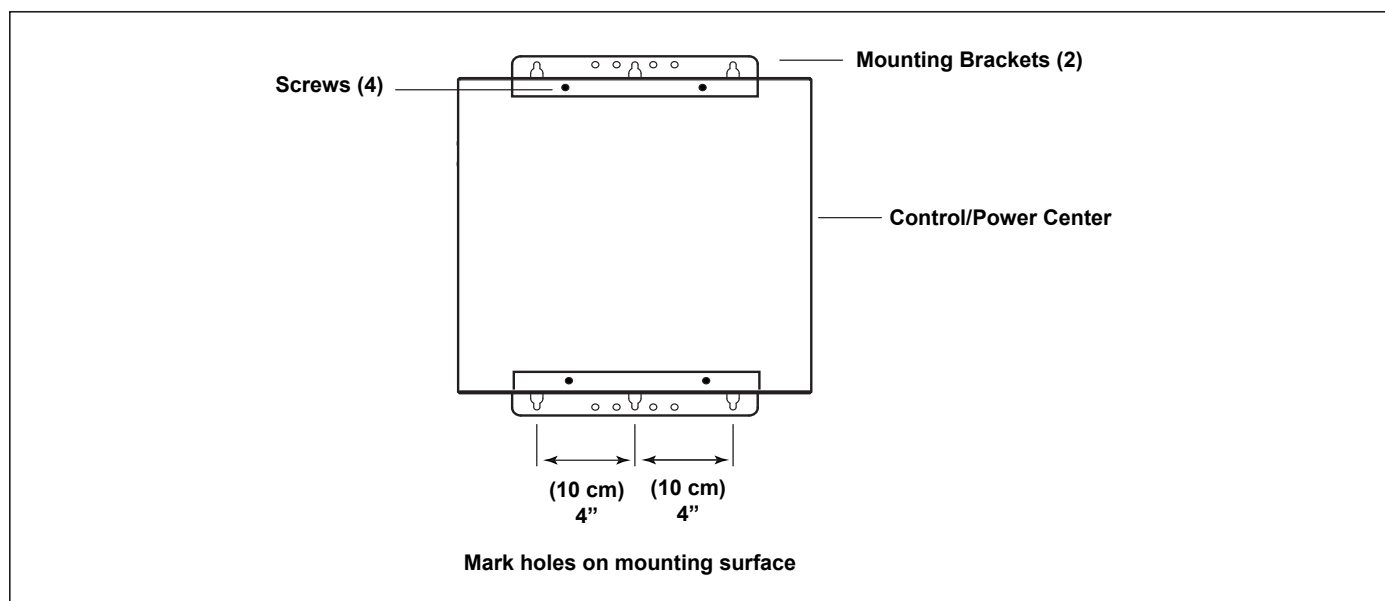
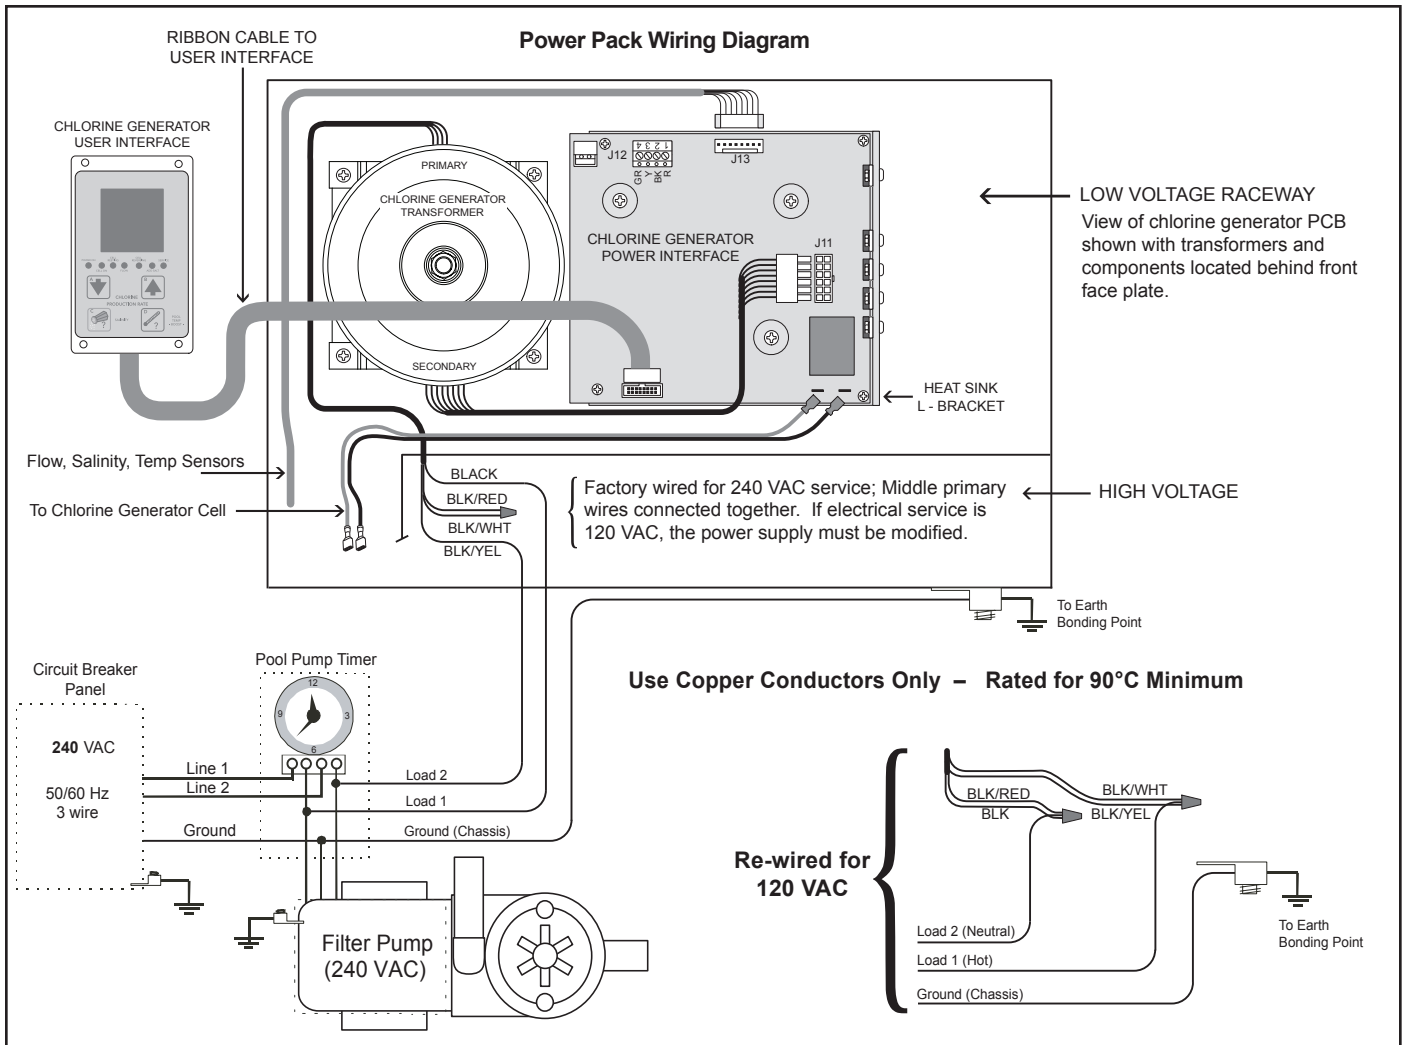

Figure 7. Power Pack Installation
Figure 10. Wiring Diagram for the Power Pack
2. The control/power center comes with two (2) full length, heavy duty mounting brackets *fastened* to the back of the power center during shipping. Remove the four (4) screws that are holding the two (2) brackets and the cardboard shipping cover in place (see Figure 7). Remove and discard the cardboard.
3. Using the top mounting bracket as a guide, mark three (3) holes on the mounting surface where the power center will be installed. Drill the holes in the mounting surface.
**NOTE** The three (3) mounting holes are 10 cm (4") apart center to center.
4. Reinstall the mounting brackets to the top and bottom of the back of the control/power center using the four (4) screws that were removed in *Step 2*. Ensure that the brackets are rotated from the original shipping position.
5. Hang the power pack on the surface using the three (3) holes drilled in *Step 3*. With the control/power center in place, mark three (3) holes for the bottom bracket mounting.
**NOTE** As with the top brackets, the bottom bracket requires three (3) mounting holes. The three (3) mounting holes are 10 cm (4") apart center to center.
8. Check source voltage. (All units are factory wired for 240 VAC). ***In order to use on 120 VAC, the internal factory wiring of the power center must be changed. (See Figures 10 and 12).***
3. Install the strain relief provided with the vessel kit into the low voltage knock out at the power pack. Feed the connector end of the flow/temp/salinity sensor cable through the DC cord strain relief fitting. **Be certain the connector is clean and dry**, then plug the cable into the connector on the power center printed circuit board as shown in Figures 10, 11 and 12. **(Do not pull flow/temp/salinity sensor cable too tight, allow some slack).**
5. Connect the DC cord to the power center. Feed the DC cord through the same strain relief fitting as the flow/temp/salinity sensor at the power pack. Plug the DC cord into the two (2) spade connectors of the wiring harness located in the low voltage raceway of the control/power center, see Figures 10, 11 and 12. This wiring harness establishes the connection between the cell and the power interface board.
8. If the ribbon cable connecting the user interface to the power interface board was disconnected during installation then reconnect before reattaching cover (see Figures 10, 11 and 12).